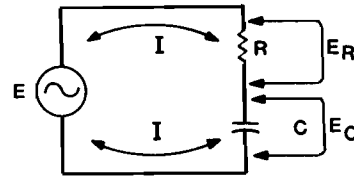
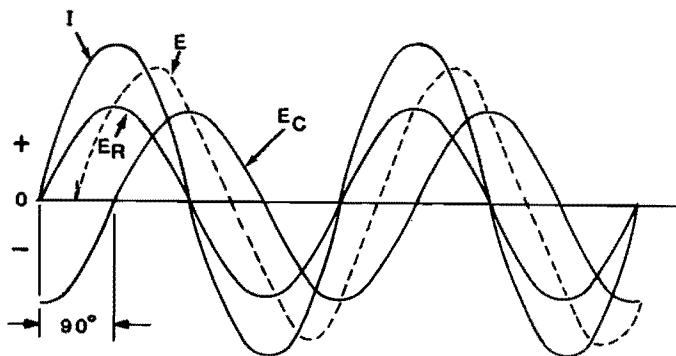

Figure 3-17 Series RC circuit.
Figure 3-18 Phase relationships between current and voltage in a series RC circuit.
The simplest form of RC circuit is a single capacitor connected in series with a resistor. Figure 3-17 shows such a circuit connected to an AC voltage source. The source voltage is a sine wave (designated E), which causes current to flow in the circuit. The capacitor will charge and discharge as the input voltage varies. The charging and discharging action of the capacitor causes a movement of electrons in the circuit. The charge on the capacitor causes a voltage to be developed across it. This voltage is designated E_C as shown in Figure 3-17. The voltage developed across the capacitor is a sine wave that lags the current flowing in the circuit.
Figure 3-18 shows the phase relationships of the various voltages and currents in this series RC circuit. In this illustration, the current sine wave (I), is used as the reference. One of the fundamental characteristics of a series circuit is that the current is common to all components. Note the voltage drop across the resistor (E_R). This voltage drop is in phase with the current. You can see this by noting that the maximum, minimum, and zero crossing points for the voltage waveform (E_R) coincide with those of the current waveform (I).
Another important characteristic of capacitive AC circuits is that Kirchhoff's Law also applies. Kirchhoff's Voltage Law tells us that the sum of the voltage drops across the components in a series circuit must equal the applied voltage. This law is valid for the circuit in Figure 3-17. Now refer to Figure 3-18. If we add E_R and E_C by summing the amplitudes of the two sine waves at multiple points and plotting the resulting curve, we will obtain the sine wave represented by the dashed line in Figure 3-18.